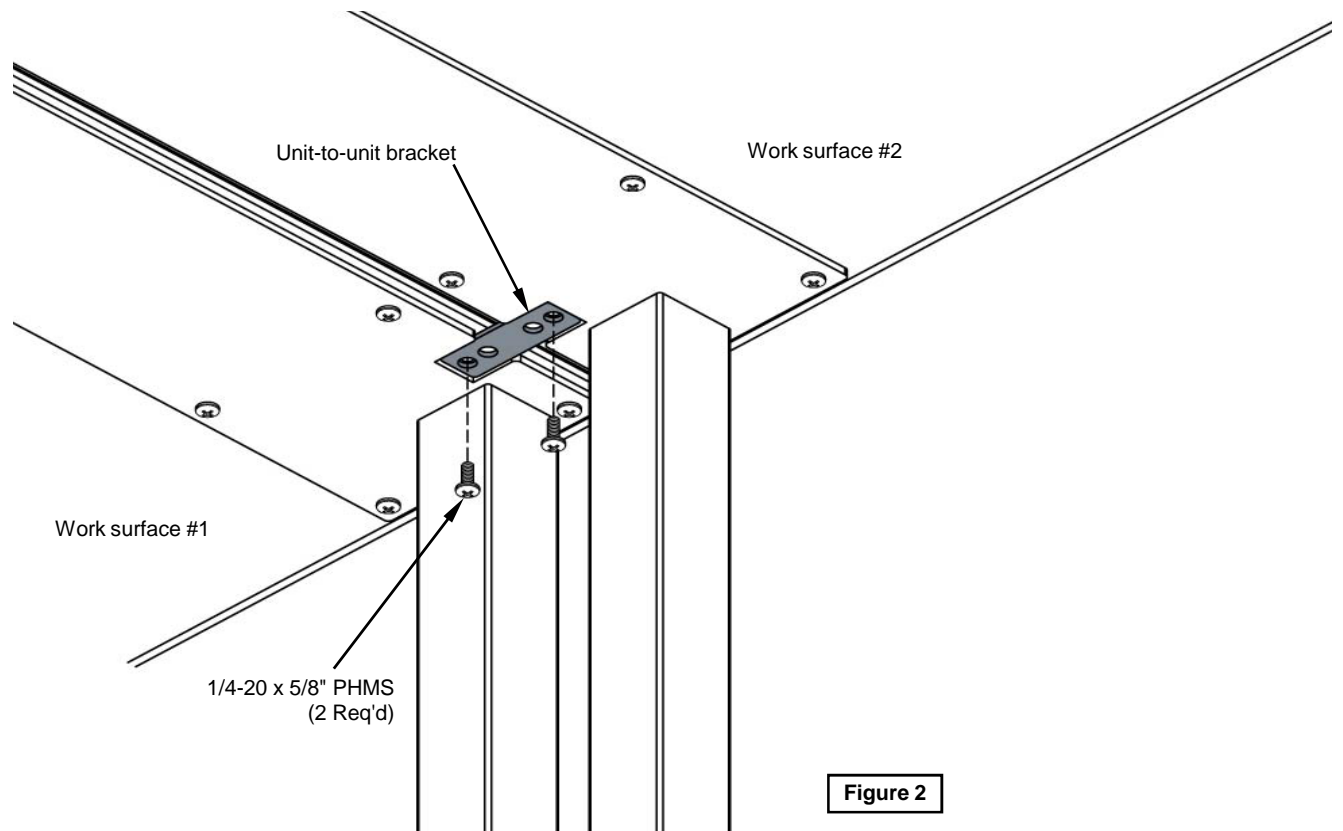

Figure 2
- B. Attach the unit-to-unit brackets to both table work surfaces as shown with 1/4-20 x 5/8" PHM screws and tighten securely. **Figure 2.**